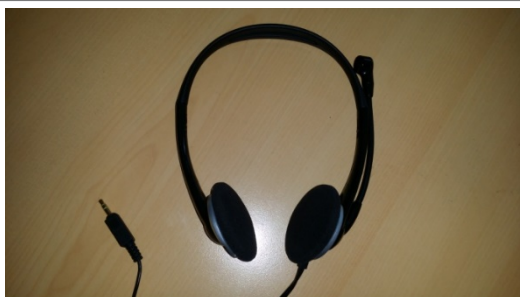

Figure 15. Headphones used as speakers
3. Headphones/speakers with male Jack as shown in Figure 15